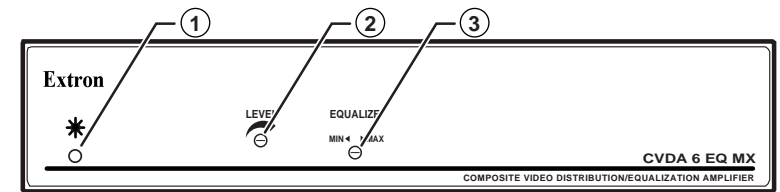

Figure 3 — CVDA 6 EQ MX front panel
- Power LED** — This LED (figure 3) lights to indicate that the CVDA 6 EQ MX is receiving power.